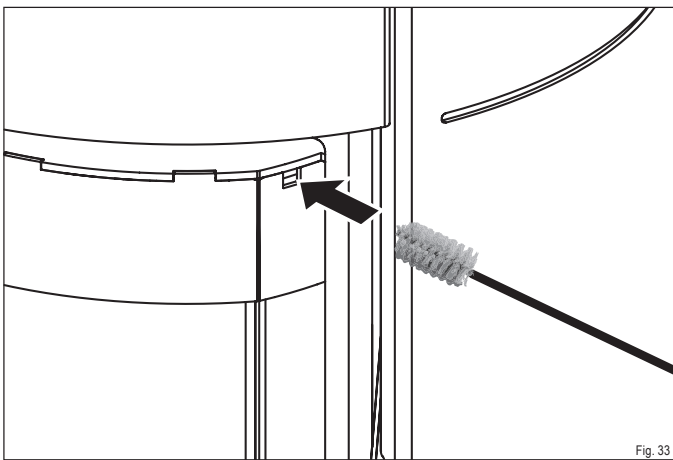

Fig. 33
- ▶ Insert the included brush in the clean-out port (Fig. 33).